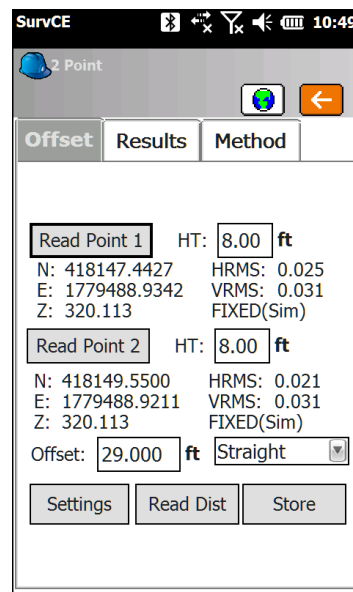

Figure 17
2. Generate the coordinates for Point 1 and two by occupying them and tapping the appropriate Read Point buttons (Fig.17)
3. Tap the Read Dist button to measure to the feature with the laser, then specify whether the target is Straight, Right or Left of the line between the two points (Fig.17)